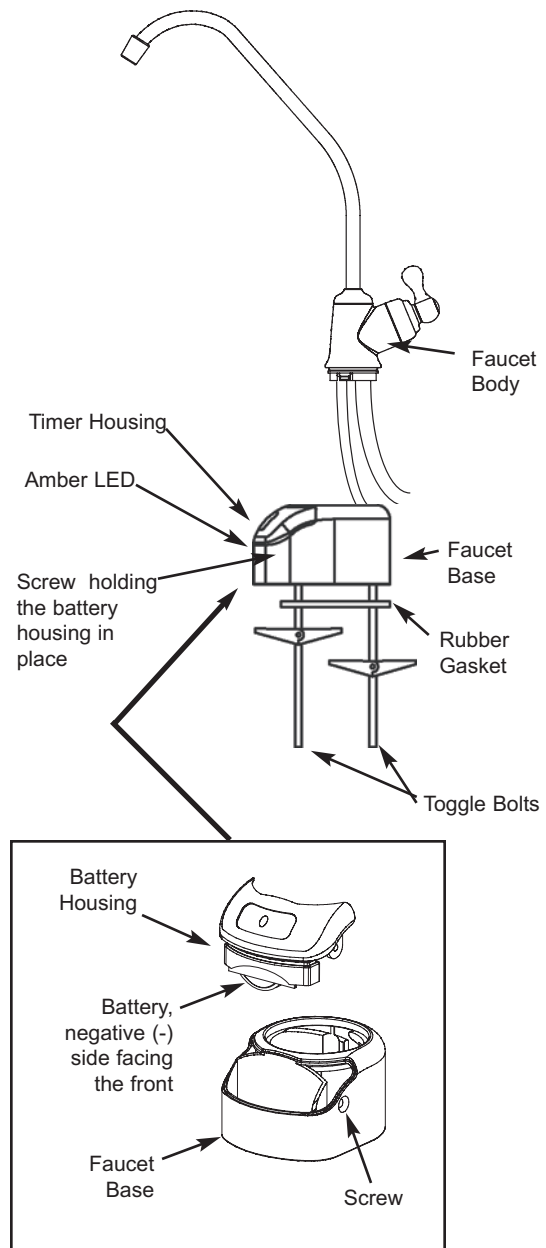

FIG. 14
1. Locate and organize your RO faucet install parts. Refer to Fig. 14.
Inside the faucet base is a battery operated 6 month timer. See Fig. 14.
1. Loosen the screw on the right side of the faucet base. See Fig. 14.
2. Press the battery housing upwards from the front faucet base until it releases from the faucet base. See Fig. 14.
5. Re-install the timer housing and firmly tighten the mounting screw. See Fig. 14.